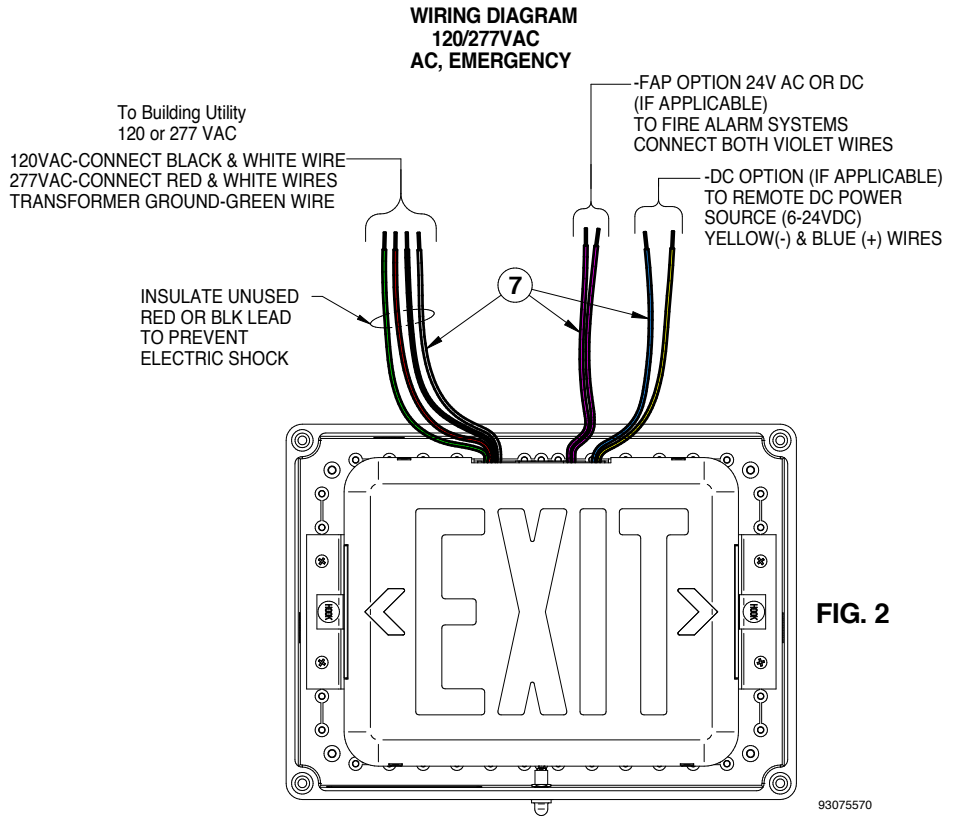

FIG. 2
7. Make all connections to building utility AC conductors using color coded leads provided. (See Fig. 2)